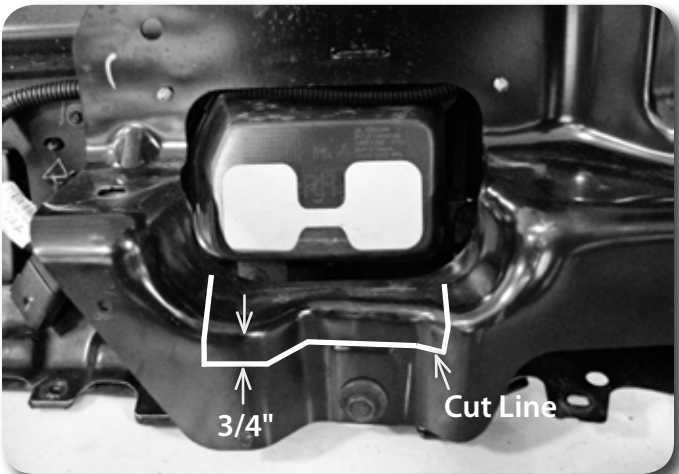

Figure 15
24. The front bumper mounts will also need to be modified. Make a cut mark  $\frac{3}{4}$ " below the edge of the bracket as shown. **Figure 15** Finish the cut line by going straight up to the original opening in the bracket. Cut at the marks with a cut off wheel or reciprocating saw.